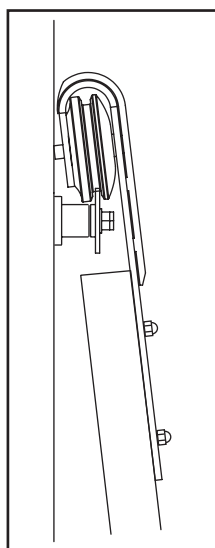

Figure 6
7. Install the hangers to the front of the door using hex bolts, washers, and acorn nuts (provided) (Figure 6).
11. Hang the door (Figure 6).